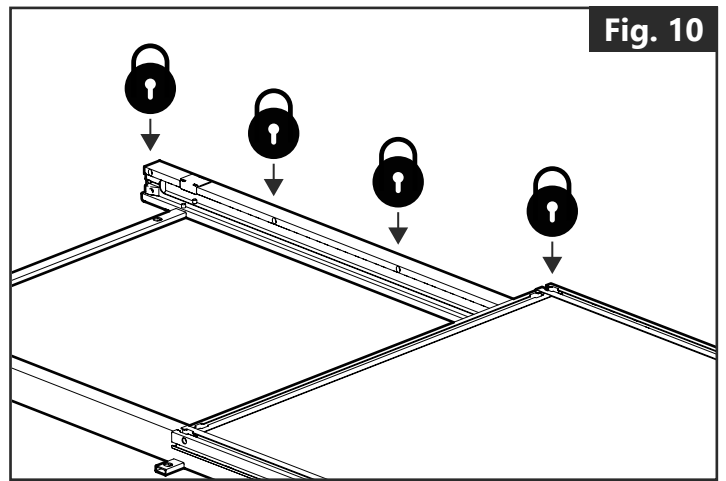

Fig. 10
- The Mountain Top Slide™ has 4 locking positions along the base frame rails. **(Fig. 10)**